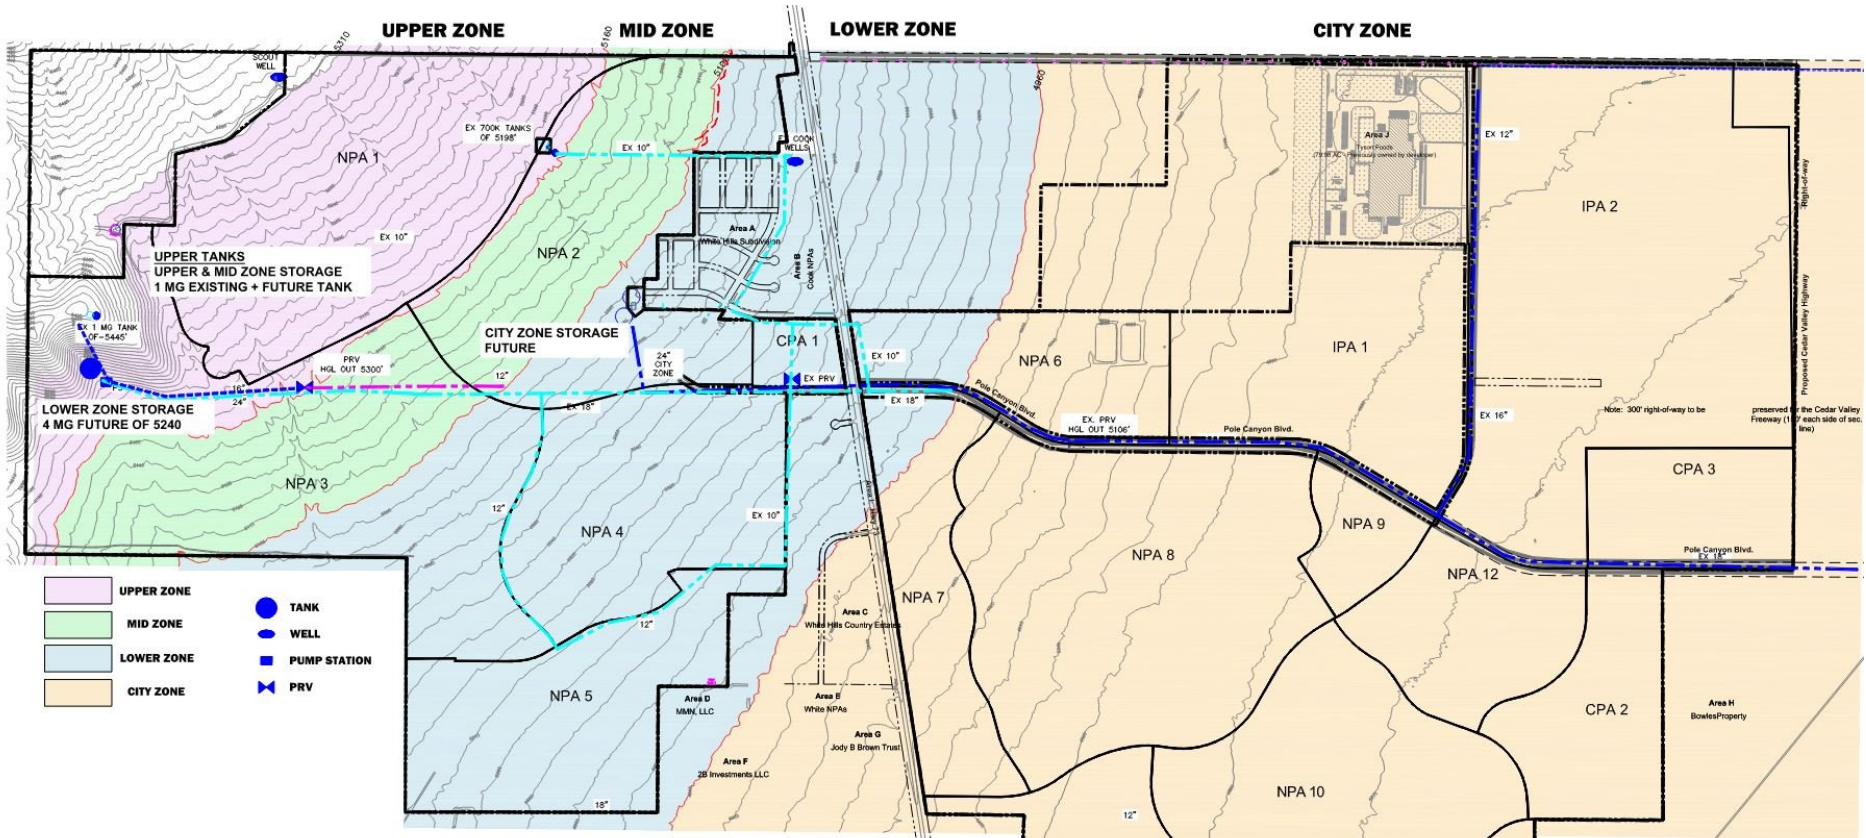

FIGURE 1
5. Planned Pressure Zones – Figure 1 provides for the proposed location of the planned pressure zones. The Upper and Mid Zones storage will be serviced through the Upper Tank hydraulic grade line. The Lower Zone storage will be through a planned 4MG tank with augmented flows from the Upper Tank during emergencies through a PRV. The existing Lower Tanks HGL do not fit into the proposed pressure zones and may need to be utilized separately. The Industrial/City Zone is planned to provide storage through PRVs from the new 4 MG Lower Tanks HGL until lower tanks for this pressure zone are constructed. However, during an emergency the zone is also connected to the City's Main Zone through a PRV for fire flows. It was anticipated that zone boundaries provide the minimum pressure standards set forth herein with a maximum pressure of 120 psi.